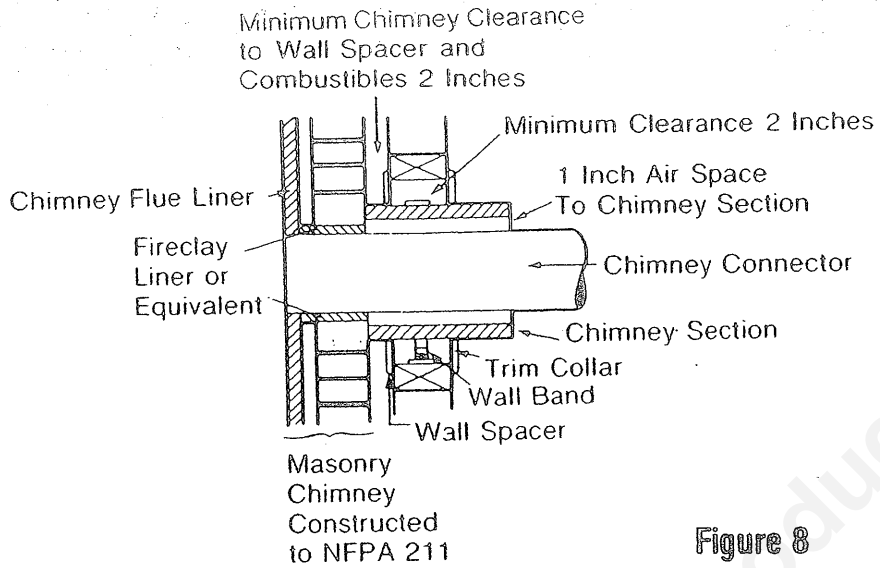

Figure 8
B. 6 inch solid pack chimney with metal supports as a thimble-For the method of installation to a masonry chimney shown in FIGURES 8 and 9, it will be necessary to purchase a 6 inch inside diameter 12-inch long section of prefabricated listed solid pack chimney to use a thimble. Purchase a wall spacer, trim collar and wall band that are manufactured to fit the chimney section you purchase.